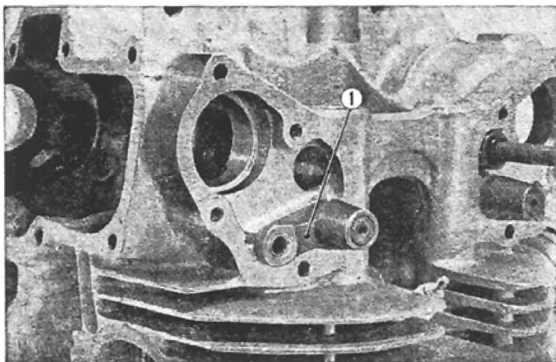

Fig. 3.44
- ① Torsion bar holder
2. Unscrew the torsion bar, hold the torsion bar arm in the direction of the arrow marked on the end of the valve spring so as to relieve the load from the holder bolt. (Fig. 3.44)